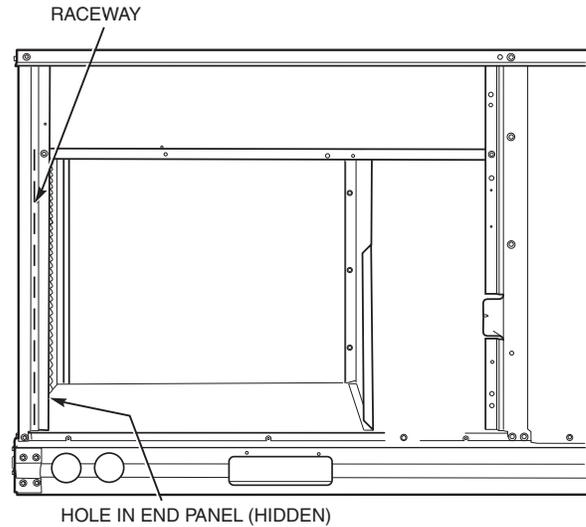

Fig. 31 — Field Control Wiring Raceway
Pass the thermostat control wires through the hole provided in the end panel (see item "D" in the view labeled "LEFT" in Fig. 2 and Fig. 3) then feed the wires through the raceway built into the corner post to the control box. Pull the wires over to the terminal strip on the upper-left corner of the Central Terminal Board (CTB) See Fig. 31.
2. Feed wires through the raceway built into the corner post (see Fig. 31 on page 20) to the 24-v barrier located on the left side of the control box. The raceway provides the UL-required clearance between high-voltage and low-voltage wiring.